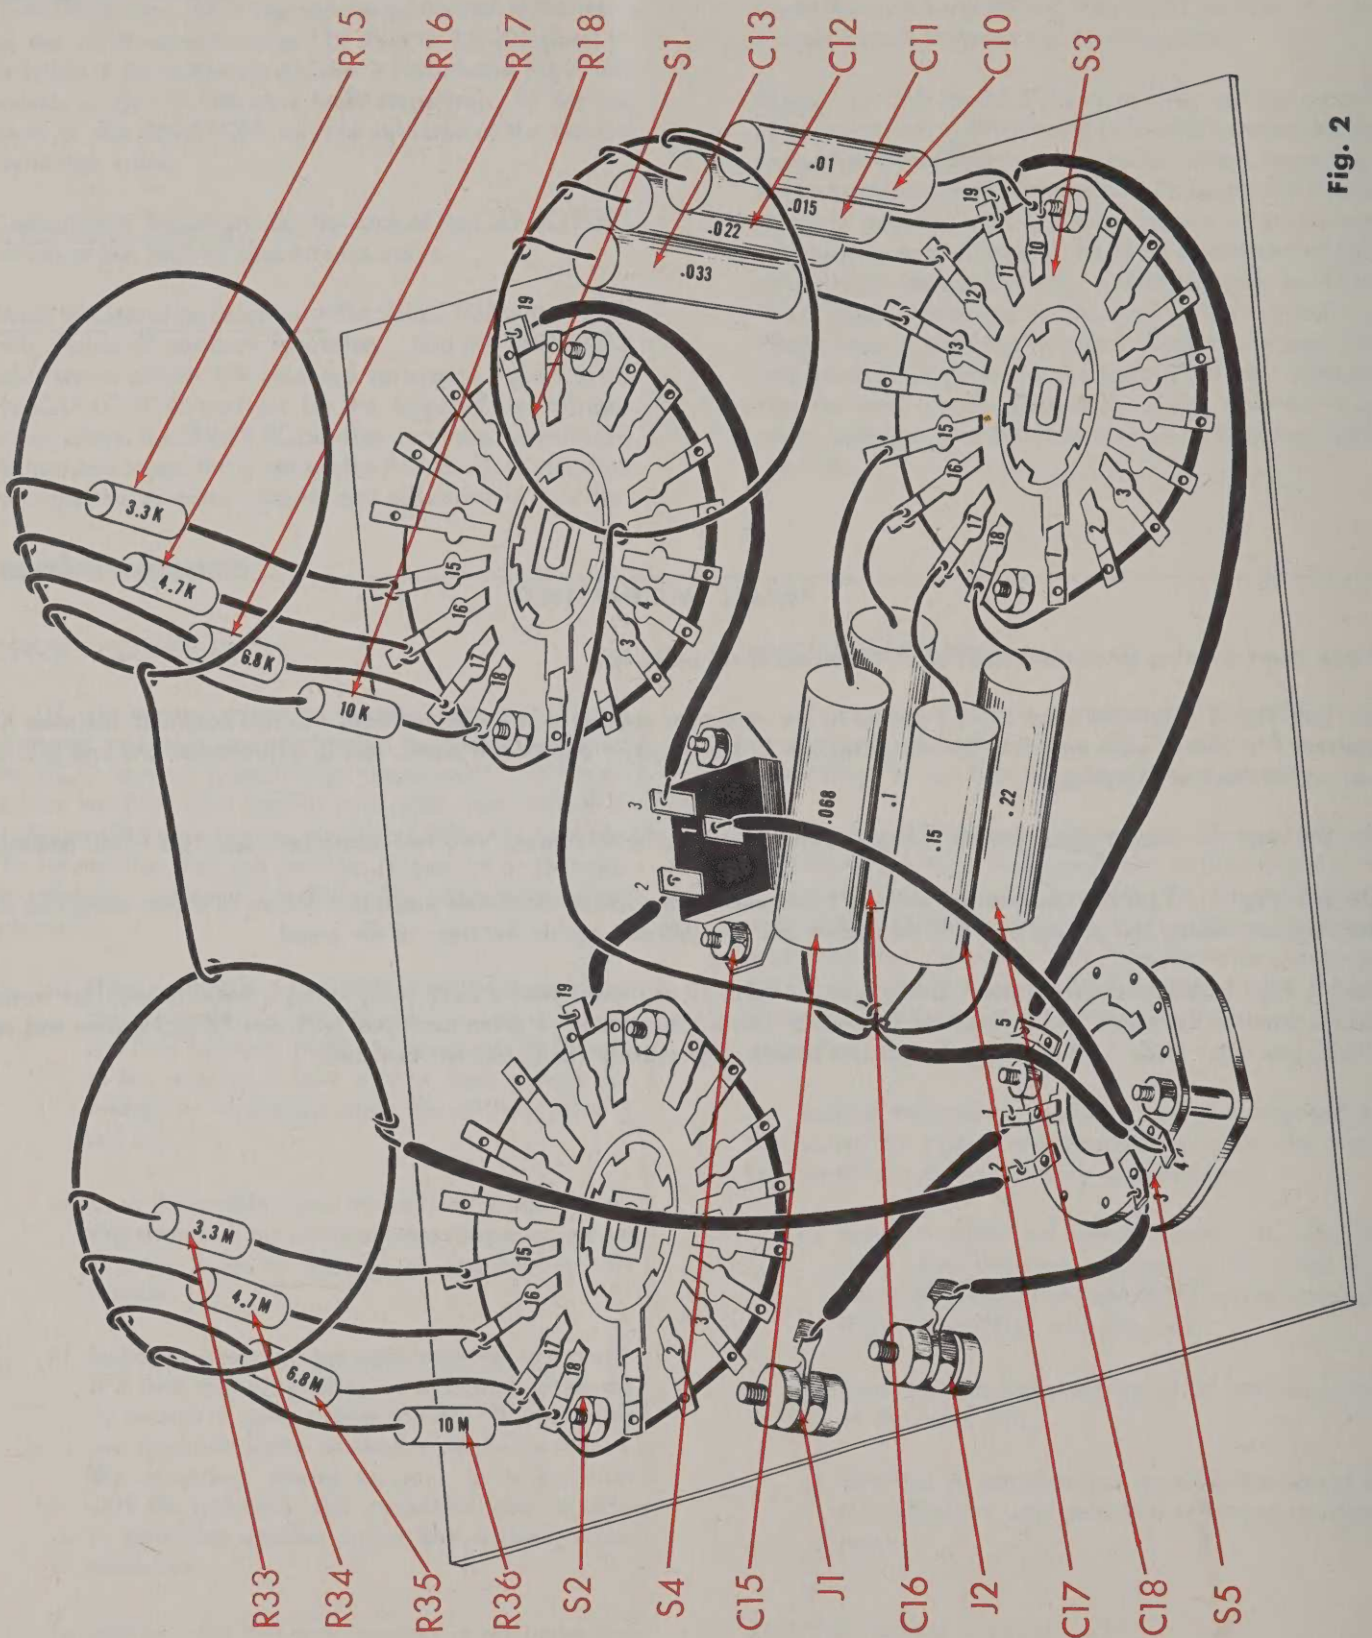

Fig. 2
1. (v) Fig 2. Stretch the piece of heavy bare wire to eliminate any kinks. Cut three 7 1/4" lengths. Form each piece of wire into a ring of approximately 2" diameter. Overlap the extra lengths of wire and solder.
2. (v) Fig. 2. Cut both leads on all resistors to 1/2".
3. (v) Fig. 2. Low value resistors (15Ω to 10KΩ) are mounting on switch S1. High value resistors (15KΩ to 10MΩ) are mounted on S2. Connect one end of the 10KΩ (brown, black, orange, silver) resistor, R18, to S1-18 (S). Leave approximately 1/4" of wire between the resistor body and the switch contact.
4. () Fig. 2. Similar to the above, connect and solder the following resistors to the indicated contact on the switches.
19. () Fig. 2. Put knobs over all four shafts on the controls. The LOW resistor knob should face "15", the HIGH resistor knob should face "15", the CAPACITOR knob should face ".0001" and the SELECTOR knob should face "OPEN". Tighten all set screws. Your instrument is now complete and ready for use.